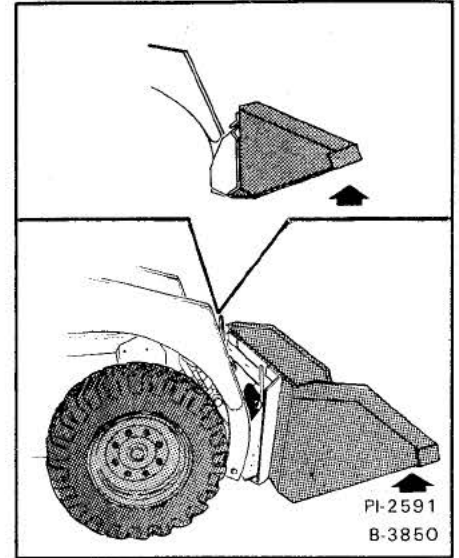

Fig. 26 Lifting Bucket
3. Tilt the Bob-Tach backward until the bucket is lifted off the ground (Fig. 26). Stop the engine.